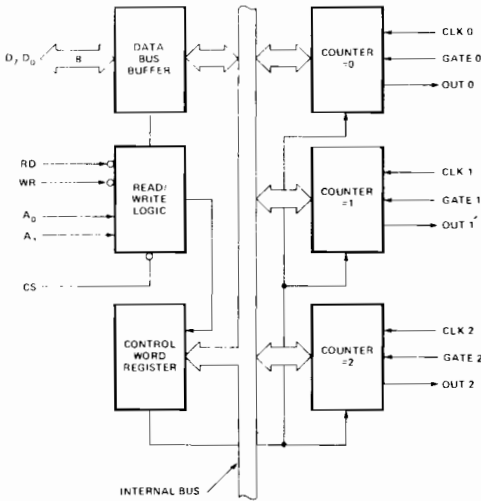

Figure 1. Block Diagram
1. AC timings measured $V_{OH} = 2.0 V_{OL} = 2.0$, $V_{OL} = 0.8$, and with load circuit of Figure 1
2. Chip Select (CS) and Command/Data (C/D) are considered as Addresses.